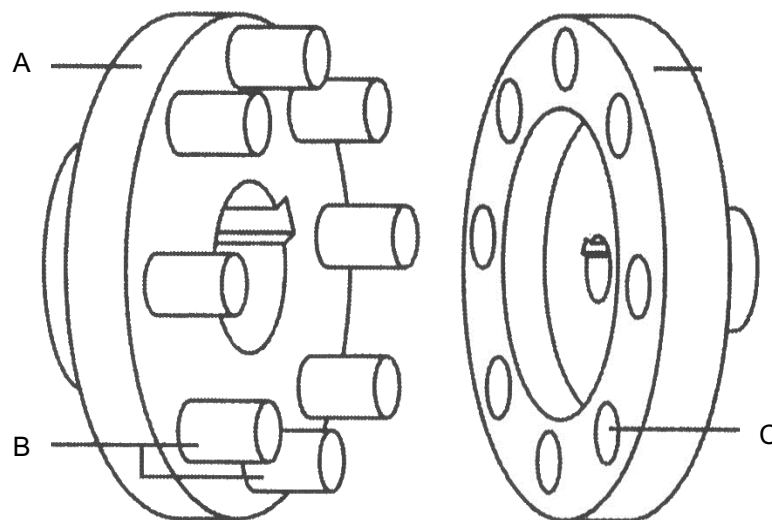

FIGURE 1
- 1.5 Refer to FIGURE 1 below and answer the questions.
- 1.5.1 Name the type of coupling shown in Figure 1. (1)
- 1.5.2 Label the parts indicated on FIGURE 1 by writing the answer next to the letter (A–C) in the ANSWER BOOK. (3)